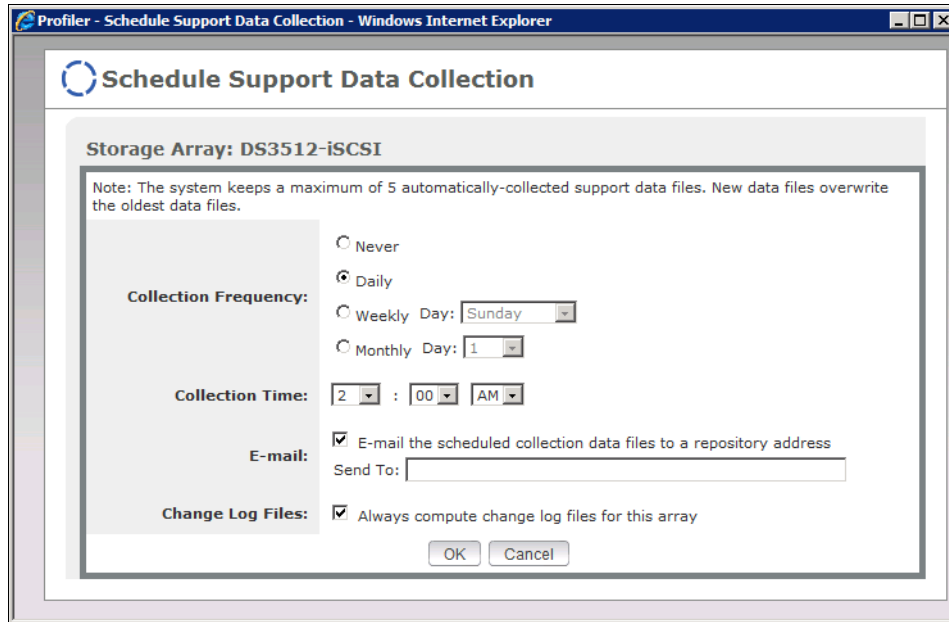

Figure 14-26 Schedule Support Data Collection
2. Click the calendar icon to schedule the times that the support data collection will occur, as shown in Figure 14-26 on page 346.